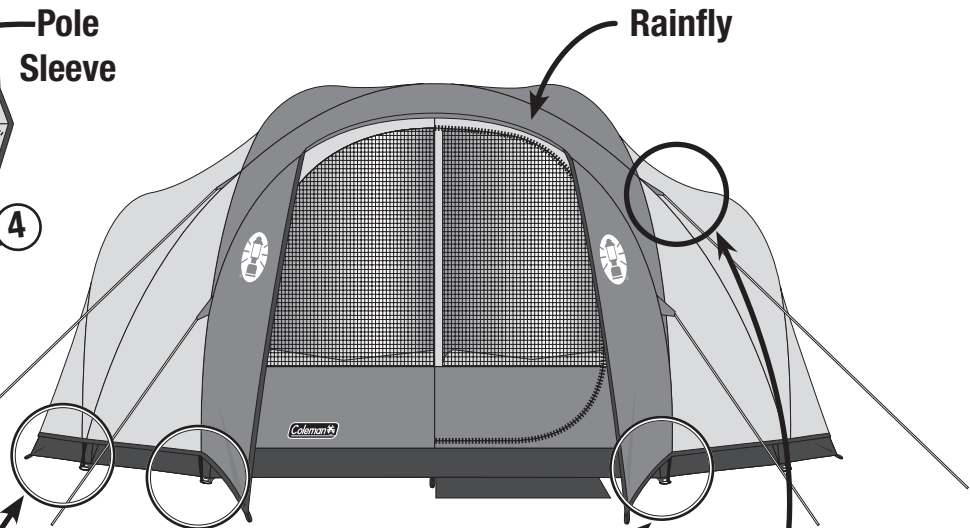

Fig. 7
- Drape rainfly over tent. (Fig. 7)
- Attach and stake out guylines. (Fig. 7)